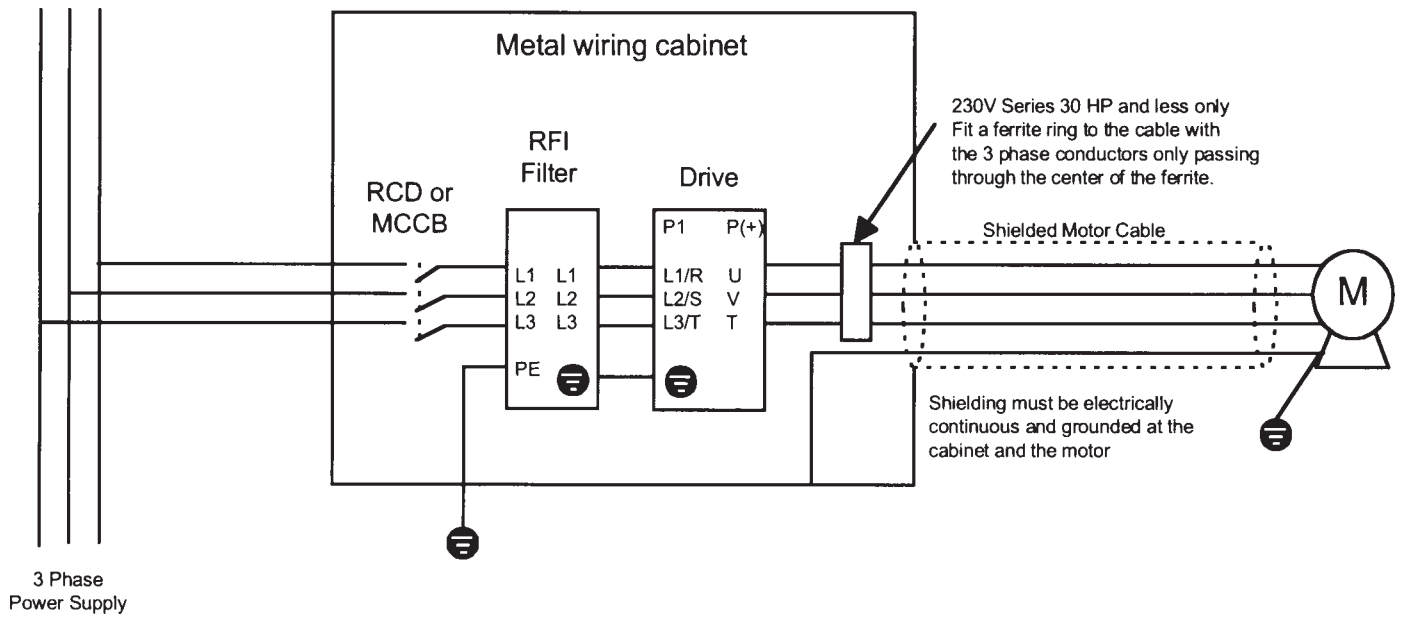
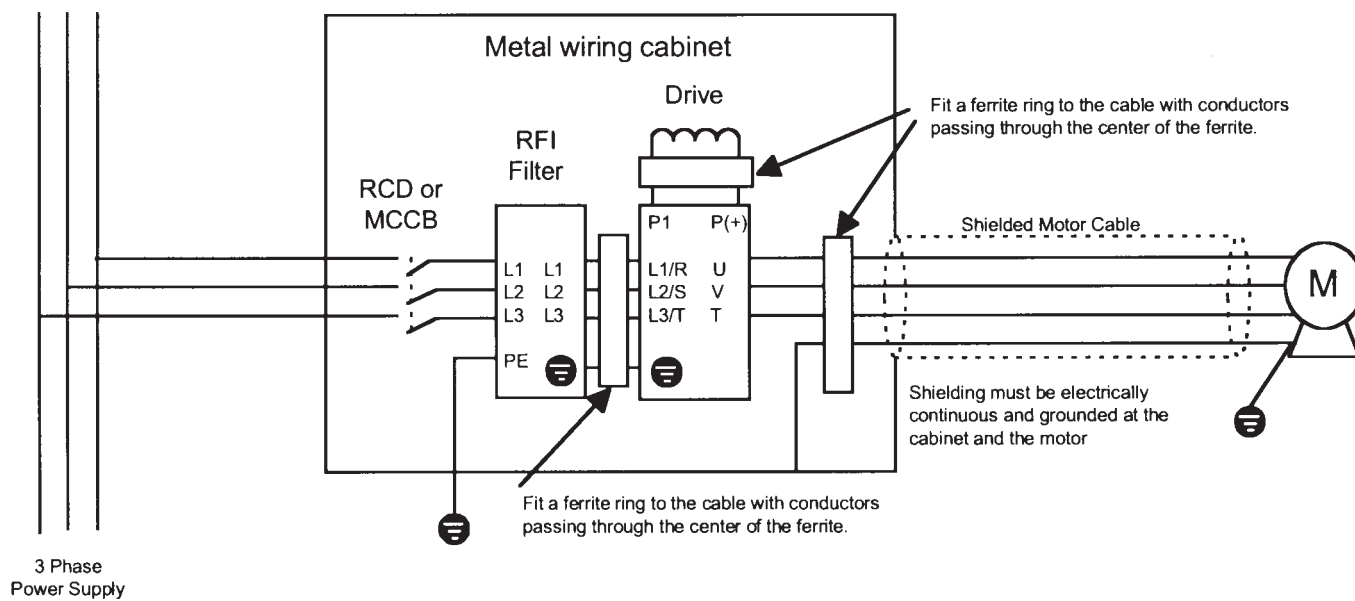

Figure 6 230V all Hp
Figure 7 GP10 460V 400 Hp and higher
- 6) In the case where a ferrite ring is provided with the filter, fit the ferrite ring so the conductors pass through the center of the ferrite. Wire the cable according to Fig.6 or Fig.7 , paying attention to the applied Drive type.